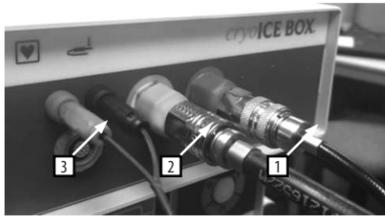

Figure 2: PROBE Connections to ACM
4. Connect the PROBE **Gas Inlet Connector** to the **Gas inlet Connection Port**. See Figure 2.
7. Connect **Temperature Connectors** of the PROBE to the corresponding colored connectors on the ACM. See Figure 2: PROBE Connections to ACM.